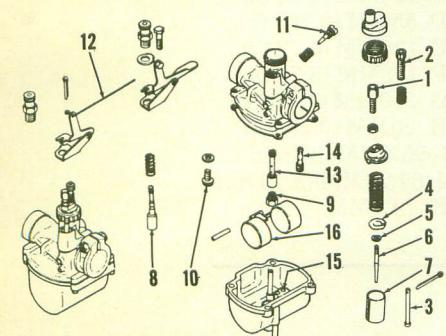
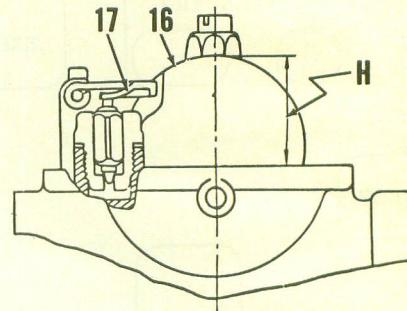

Fig. Y5-1—Exploded view of Mikuni VM carburetor. Starting valves for both carburetors are connected with rod (12).
Fig. Y5-2—Float level (H) is adjusted by bending tang (17).
**CARBUREATORS.** Two Mikuni VM carburetors are used. Idle speed should be set at approximately 1,200 rpm by turning adjusters (2—Fig. Y5-1). Make sure that throttle slides (7) both stop at exactly the same position and exhaust pressure is the same for both cylinders. Idle mixture is changed by turning needles (11). Initial setting is 1½ turns open. Turning the needle counter-clockwise leans the mixture. Carburetors must be synchronized to open ex-
Float level (H—Fig. Y5-2) should be 25.5MM (1 in.) and is adjusted by bending tang (17) on float. Refer to Fig. Y5-1 and the following standard specifications:
Before adjusting the pump control cable, it is important that the throttle cable guides (1—Fig. Y5-1) are correctly set. To adjust the throttle cable guides, turn the idle speed adjusters (2) all the way down, then synchronize cable guides (1) so that both throttle slides (7) begin to move at exactly the same time when the hand grip is turned. The throttle cables should have approximately 1/16-inch free play after they are synchronized. Adjust the idle speed to 1,100-1,300 rpm by turning both idle adjusters (2). Make certain that both throttle slides stop at exactly the same time. Turn the throttle hand grip just enough to take up free play from the throttle cables (without changing idle speed) and check the oil pump setting mark and guide pin as